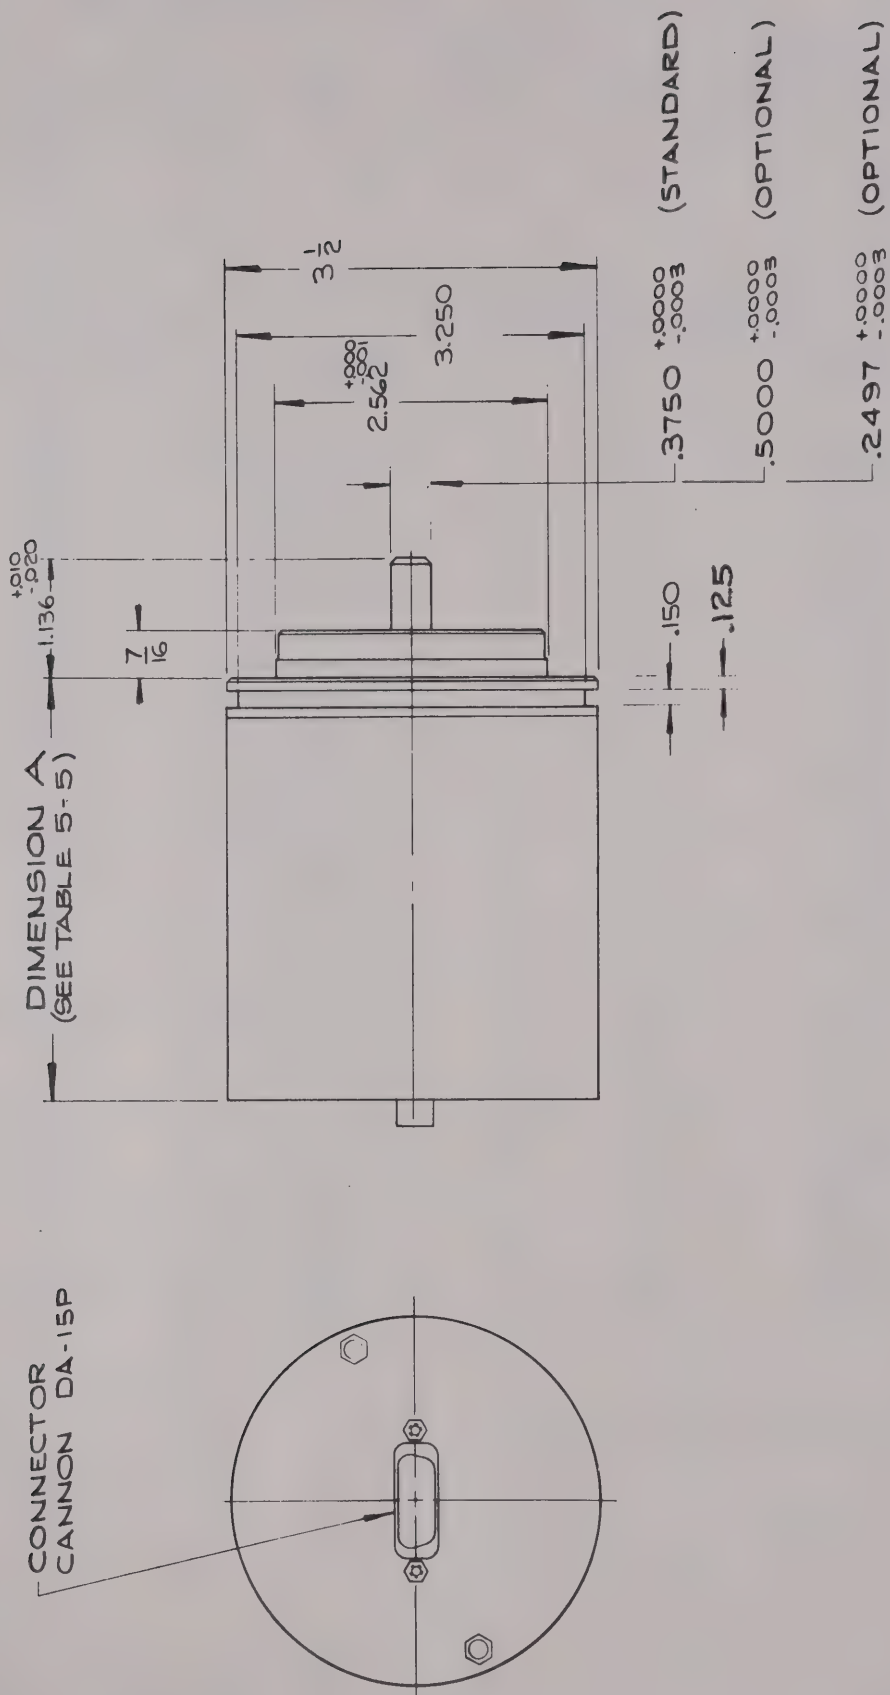

Fig. 5-1 — Outline dimensions of standard DIGISEC RI /35C series encoders
2. Outline dimensions shown in Fig. 5-1.
- Corresponds to dimension A in Fig. 5-1. Other dimensions as in Fig. 5-1 unless otherwise specified.
*Dimension A is defined in Fig. 5-1.